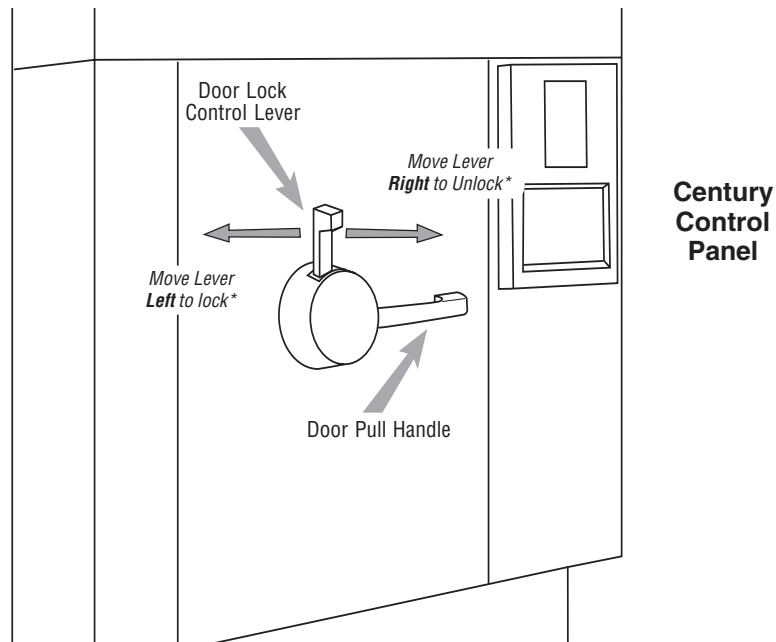

Figure 4-11. Hinged Door Operation
1. Unlock door by moving door lock control toward the right (refer to Figure 4-11).